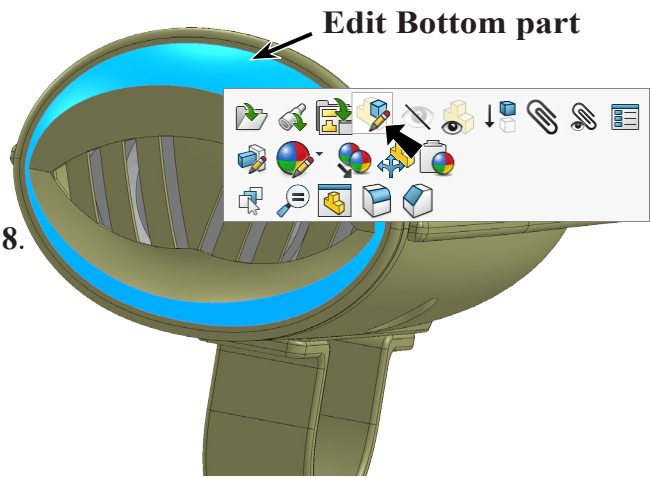

Fig. 16
Step 1. Click **Bottom** component in the graphics area and click **Edit Part**  on the context toolbar, **Fig. 16**.